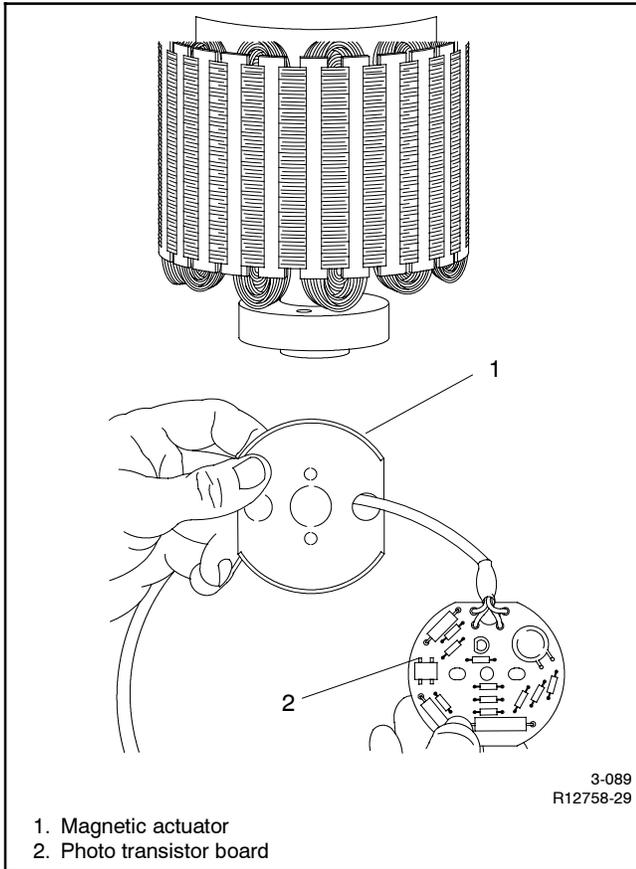

Figure 4-15 Installing Photo Transistor Board (20-300 kW models shown)
- While the rotor is suspended, install the photo transistor board, insulator board, and magnetic actuator. Place the photo transistor board lead through the magnetic actuator as shown in Figure 4-15. Push the lead through the hole in the rotor shaft and then through the exciter laminations ending near the SCR assembly.